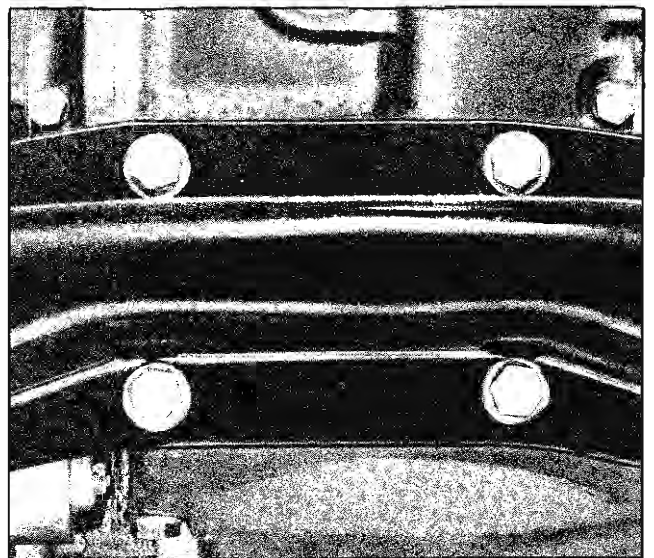

Fig. 4-25 Location of Mounting Bolts
10. Remove axle support crossmember from trans-axle assembly by lowering trans-axle slightly, permitting access to four attachment bolts (Fig. 4-25).
15. Remove axle support crossmember from trans-axle assembly by lowering trans-axle slightly, permitting access to four attachment bolts (Fig. 4-25).